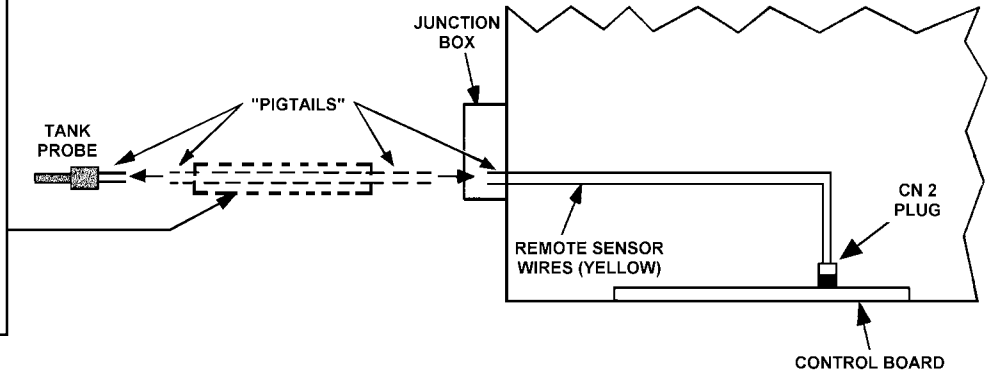

Figure 4. Tank Probe Installation
A tank probe is supplied with each hot water supply boiler (GW). To connect the tank probe to the boiler, remove the cover from the 24 VAC junction box at the rear of the unit. Connect the probe wires across terminals 1 & 2. (The wires leading to the terminals will be yellow.) Check the field connection diagram located below the junction box to assure proper wiring. See figure 4.
Refer to the (figure 4) for connecting the tank probe to the boiler.